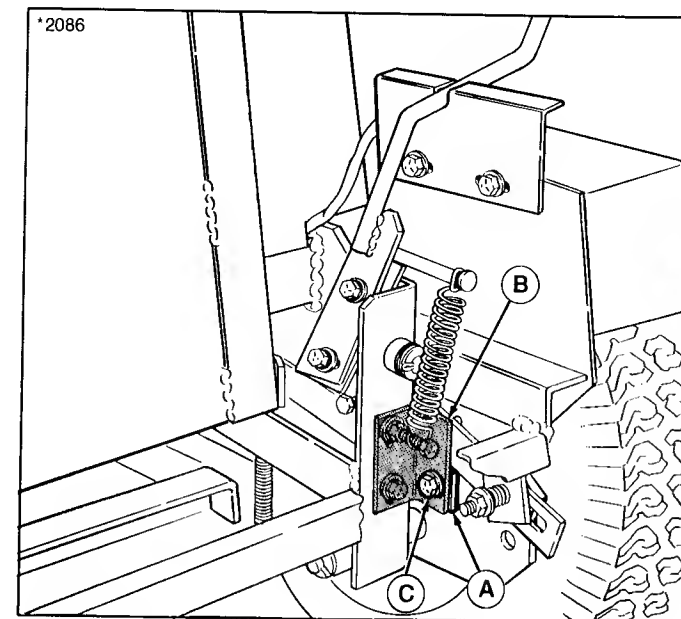

Figure 21.
Exact neutral position of transmission control linkage (A, figure 21) can be adjusted by changing position of linkage on frame bracket (B). With control levers in neutral position, wheels should not turn in forward or reverse direction. To adjust neutral:
4. Loosen capscrew (C) and nut securing transmission control linkage (A). Move linkage forward or backwards until wheel stops moving.